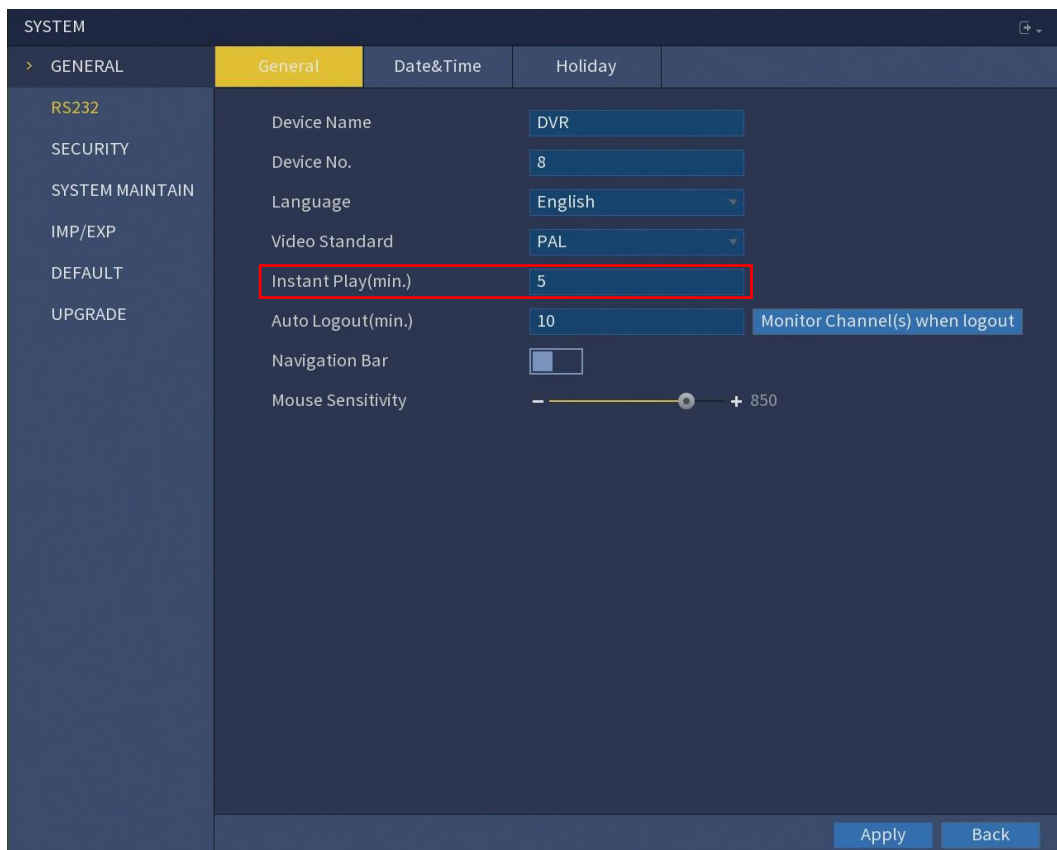

Figure 5-25
- To change the playback time, select **MAIN MENU > SYSTEM > GENERAL > General**, in the **Instant Play** box, enter the time you want to play back. See Figure 5-25.